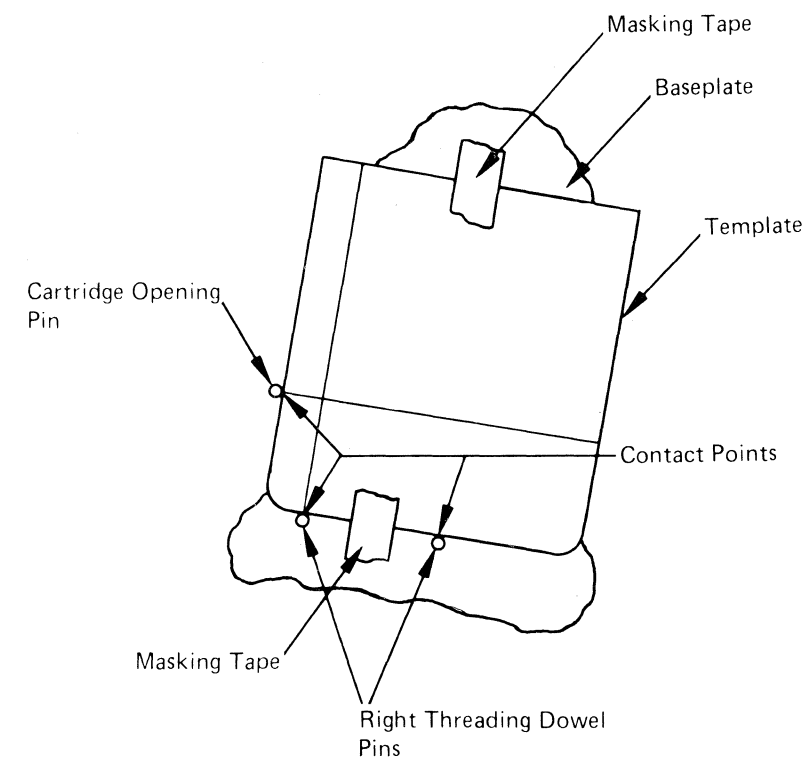

Figure 5.
16. Position the template on the tape unit as shown in Figure 5.
18. Adjust the motor so the edge of the cartridge opening pin contacts the point made on the template with the other template point aligned as in Figure 5.